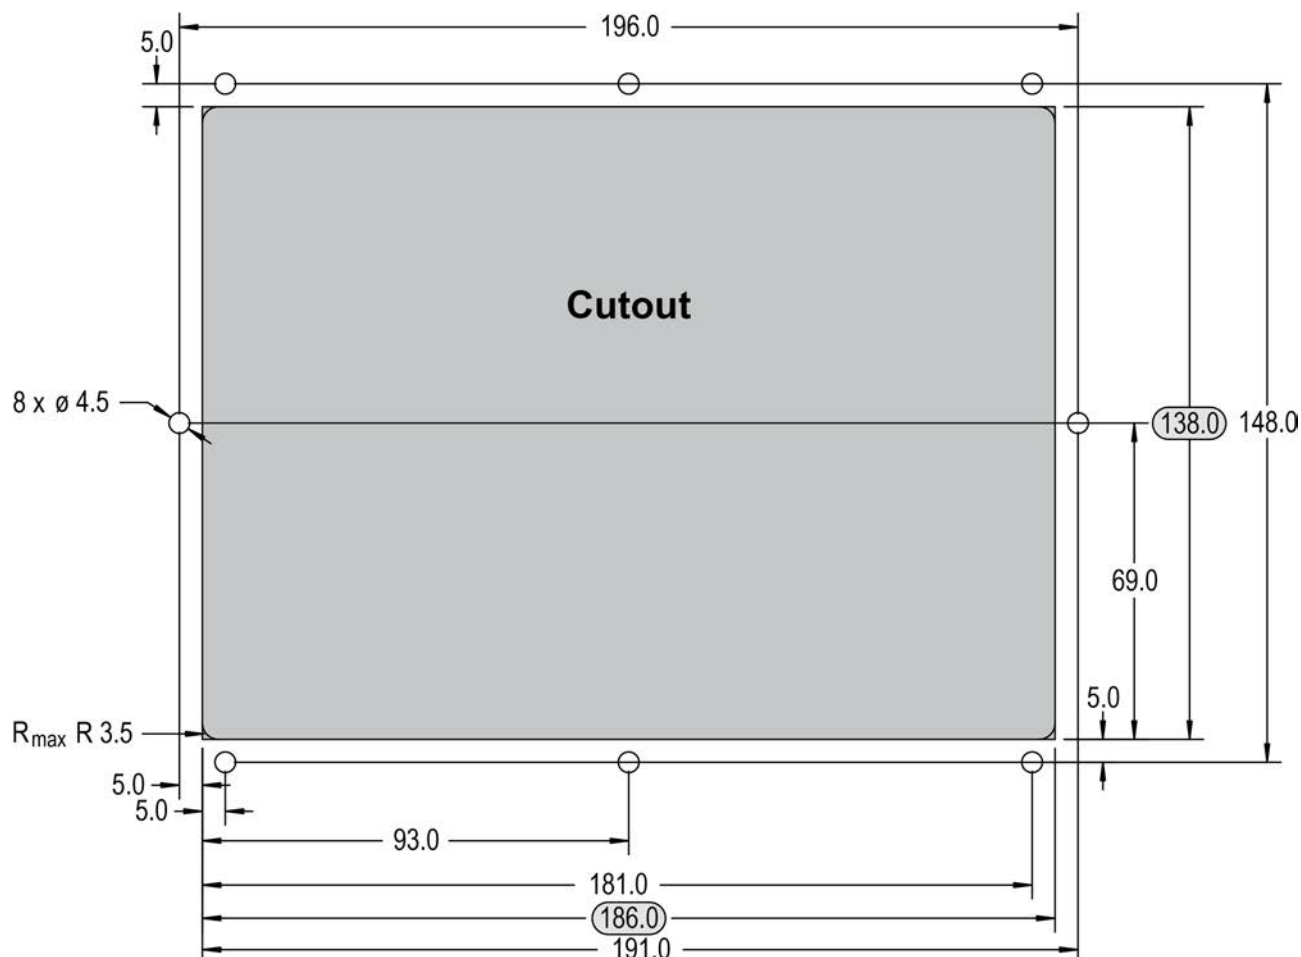

Fig. 16: Plastic housing - drill plan
The housing is equipped with 8 nut inserts (Fig. 16), which must all be tightened properly to achieve the required degree of protection.
1. ➤ Cut out the panel and drill the holes according to the dimensions in Fig. 16 (dimensions shown in mm).